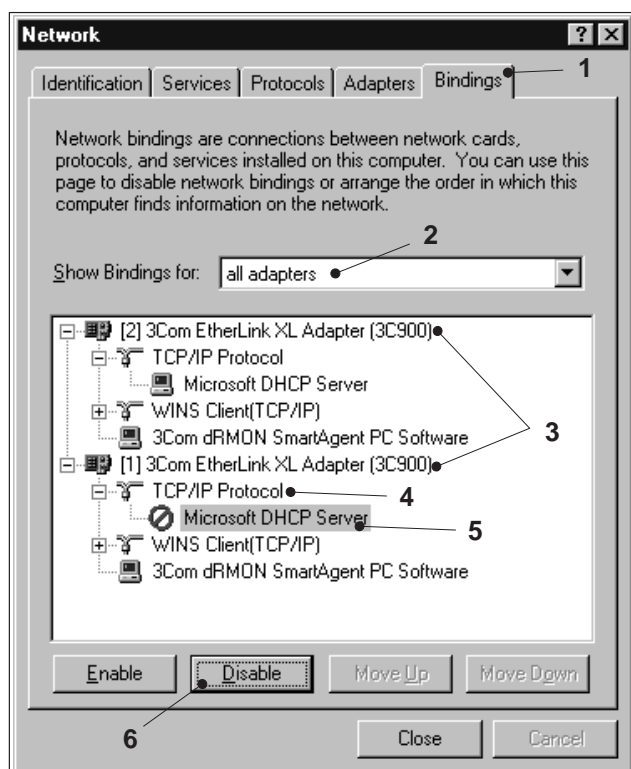

Fig. 9 Bindings
- 17 Click on the property tab **Bindings** (Fig. 9/1).
- 18 Click on the button in the line "Show Bindings" and then click on the line **all adapters** (Fig. 9/2).
- 19 Double click both network boards (Fig. 9/3).
- 20 Regarding the network board to the in-house network, click on the line **TCP/IP Protocol** (Fig. 9/4).
- 21 Click on the **Microsoft DHCP Server** line (Fig.9/5).
- 22 Click on the **Disable** button (Fig. 9/6).